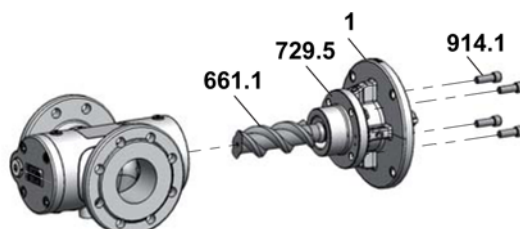

Fig 13
2. Pull the with drawable unit consisting of main screw **661.1**, bearing, seal and flange cover out of the pump housing, see Fig. 13.